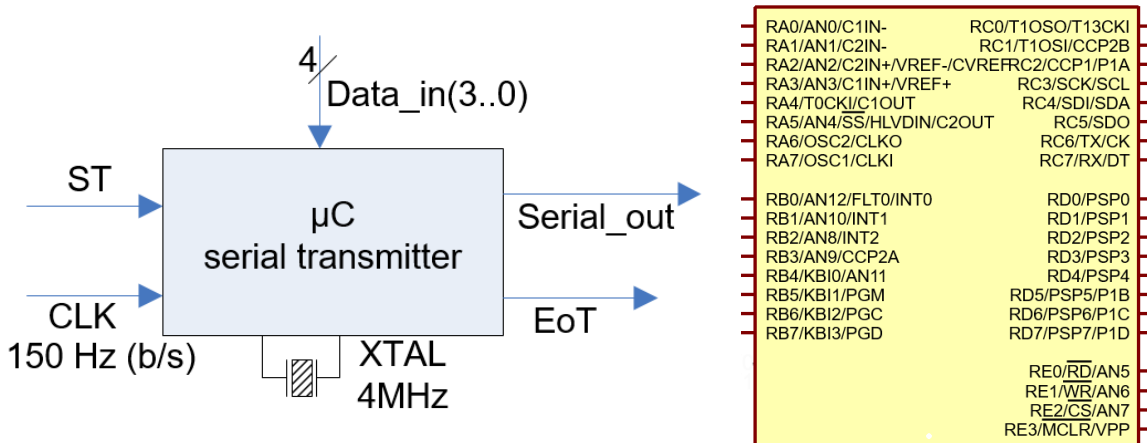
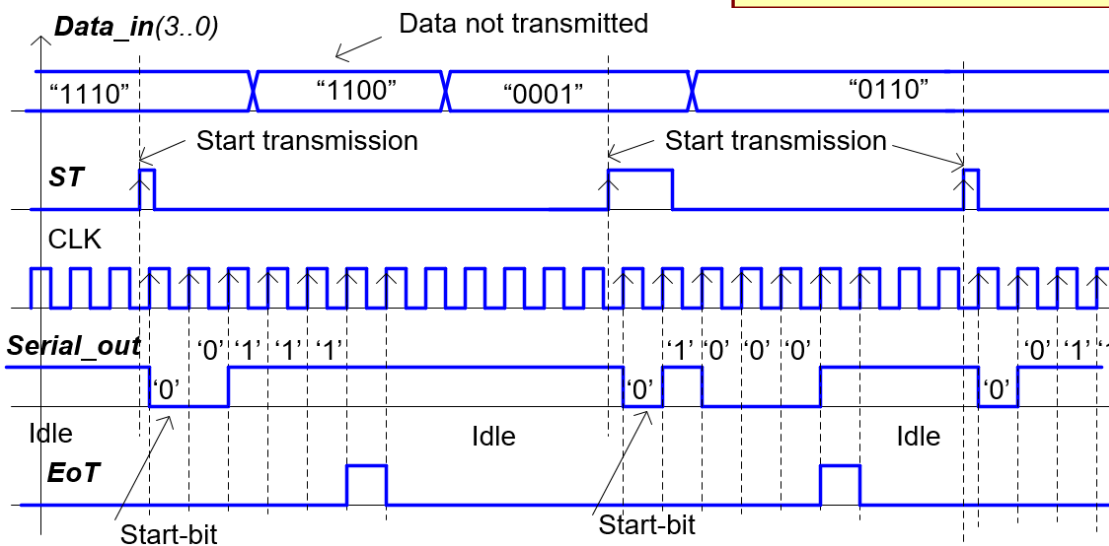

Fig. 4 Symbol of the data transmitter and the μC PIC18F4520 from Microchip.
Fig. 5 Example of a section of a timing diagram where it can be seen how the data is read and right shifted in a single wire.
Let's design a simple 2-wire asynchronous data transmitter based on a μC for sending to another computer a nibble (4-bits) of data. It is basically a right-shift register. The application symbol and pinning of the PIC18F4520 is represented in Fig. 4. We'll use the FSM style of programming in C language. The format for the serial output once the start-transmission ST rising edge is detected by means of an interrupt is: Start-bit ('0'), $Data_in(0)$, $Data_in(1)$, $Data_in(2)$, $Data_in(3)$; and then the end-of-transmission EoT pulse is generated to indicate that the transmitter has ended the process (see the Fig. 5). $Serial_out$ is held high when idle.
- Draw the hardware/software diagram indicating the required RAM variables and how the FSM is solved in software. The transmission sequence will start when a rising edge is detected at the start ST push button by means of the interrupt INT1IF. The CLK input will generate an interrupt INTOIF so that a new bit is transmitted at a time at the $Serial_out$ as represented in Fig. 5. Transmission speed is 150 b/s.